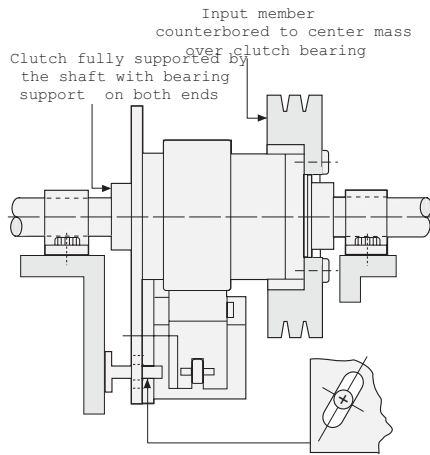
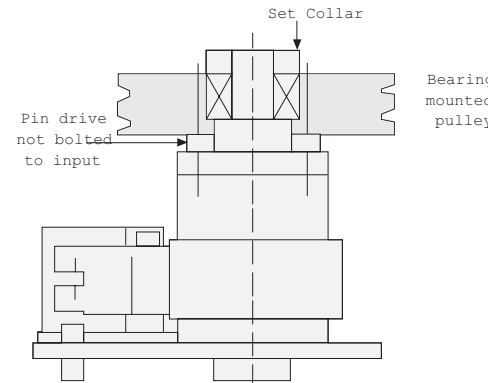

Figure 1 Plate restrained from rotating by or shoulder bolt. No axial bin
Figure 2
All Genuine Wrap Spring clutch products are designed for parallel shaft applications where they are fully supported by the shaft on which they are mounted. In the case of wrap spring clutch/brakes (CB), the through shaft is always the output. Connecting the parallel shaft to the CB input can be accomplished by use of a belt, chain or gear drive. CB models must be mounted with the shaft(s) in a horizontal position (Figure 1). If vertical mounting is required, see Figure 2.
See Figure 2 note.
**Figure 1** - Shows an ideal CB mounting. The unit is locked to the output shaft with a key and set screws. The mounting plate is restrained from rotating with a pin but is not restrained axially, reducing the load on the CB's internal plate bearing.
**Figure 2** - When applying a wrap spring vertically, the mating drive member (pulley, sprocket or sheave) must be bearing-supported as shown in Figure 2. This is necessary to eliminate the axial loading that will occur from the weight of the mating drive member (pulley, sprocket or sheave).
Illustrate how proper support can be provided. Input members are generally face mounted to the input hub of the unit as shown in Figure 1. This is facilitated by drilled and tapped holes in the free hub flange.